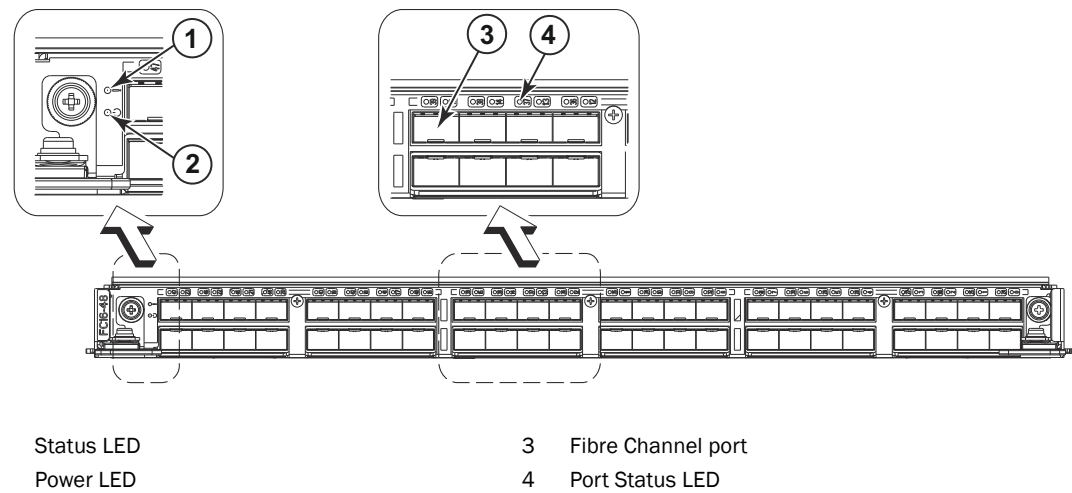

FIGURE 10 FC16-48 port blade
- Figure 10 illustrates the FC16-48 port blade.